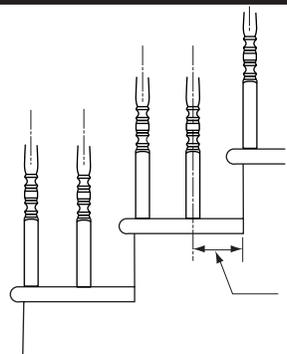

Fig. 5-10 Custom layout
2. Measure the distance from the back of the third riser to the center of the back baluster. Please note Fig. 5-10 here.